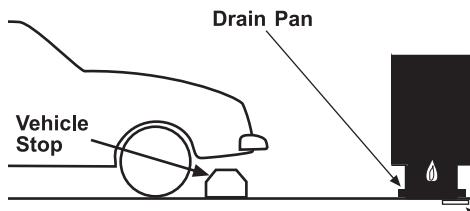

Figure 16. Garage Installation
3. Locate the water heater so it is protected and not subject to physical damage by a moving vehicle. In garage installation avoid damage to your water heater by installing a vehicle stop as shown in *Figure 16*. Check state and local codes for requirements prior to installation.